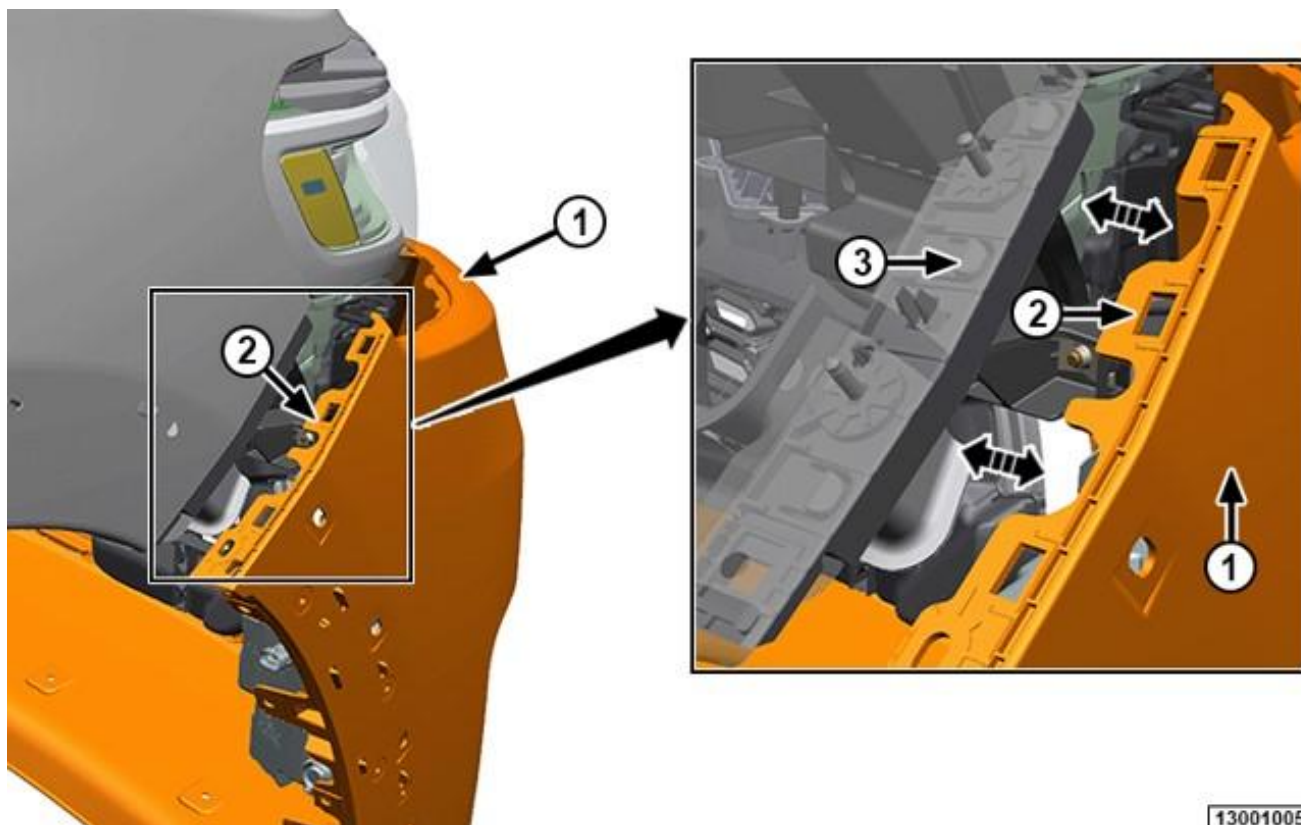

Figure B13 – Front Fascia Retaining
19. Disengage the tabs that secure the front fascia to the fenders (Figure B13).
20. Disconnect the front view camera connector (Figure B13).
40. Engage the tabs that secure the front fascia to the fenders (Figure B13).